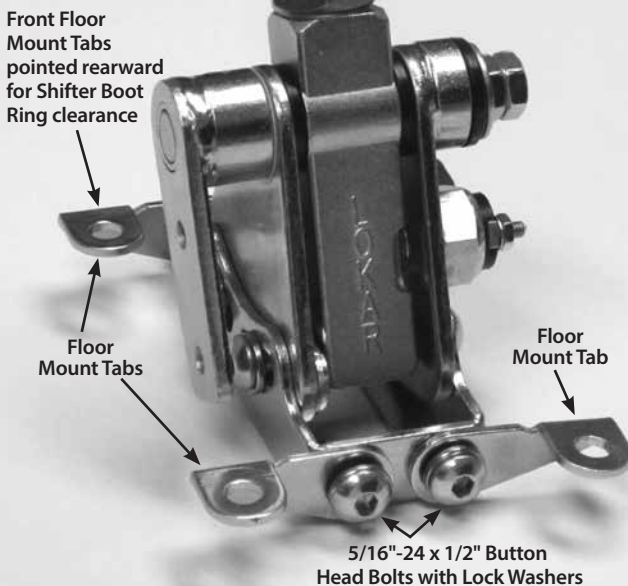

Fig. 9
**Step 11:** There are two pairs of floor mount tabs in the Shifter Kit. Which pair goes where will depend on if you are mounting the Shifter above or below the floor. See **Fig. 9** to determine how the floor mount tabs need to be positioned for your particular application.
Attach the floor mount tabs to the floor mount mounting bracket as shown in **Fig. 9** with the 5/16"-24 x 1/2" button head bolts and lock washers. Leave the bolts loose enough so that adjustments can be made later during the installation.